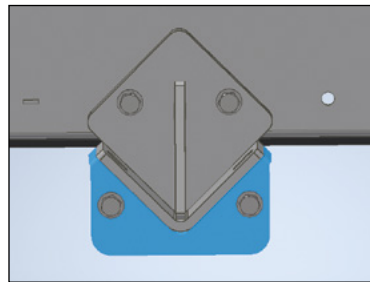

Figure 5 Truck Mount Installed (Blue)
4. After the holes are drilled, mount the truck bracket to the truck frame with 5/8" grade 5, coarse thread bolts that are not lubricated (dry/plain), which should be torqued to 150 ft-lbs (Figure 5).